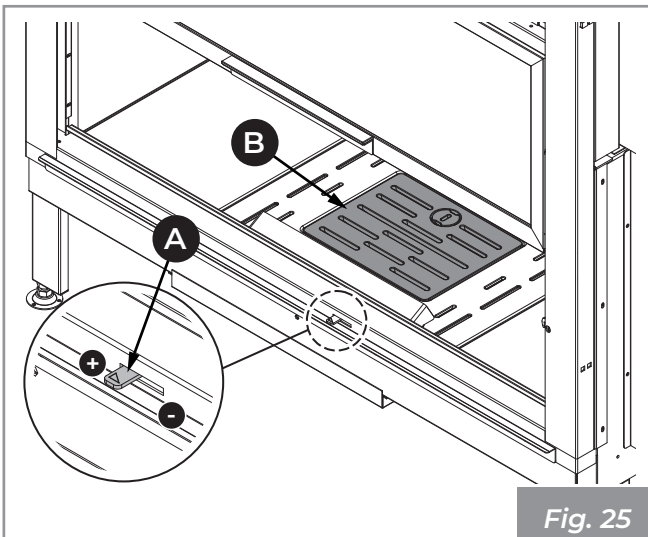

Fig. 25
- Using the supplied glove, open the primary air regulator (A) to its maximum (+) (Fig. 25).
- Carefully place the pieces of wood on the fire box grate (B) (Fig. 25).
- Keep the air regulator (A) open to ensure a high, bright flame.